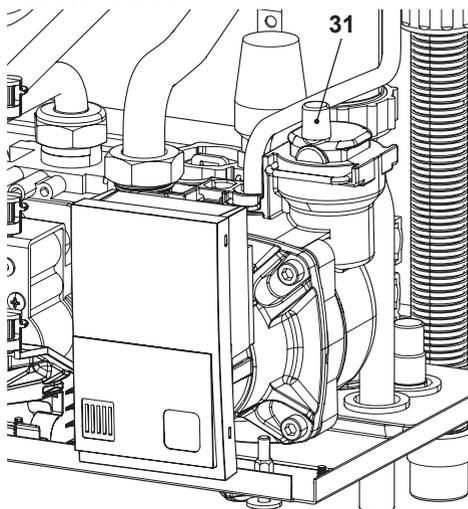

Fig. 9.11
- To make draining easier, unscrew the plug 31 of the automatic relief valve in Fig. 9.11.